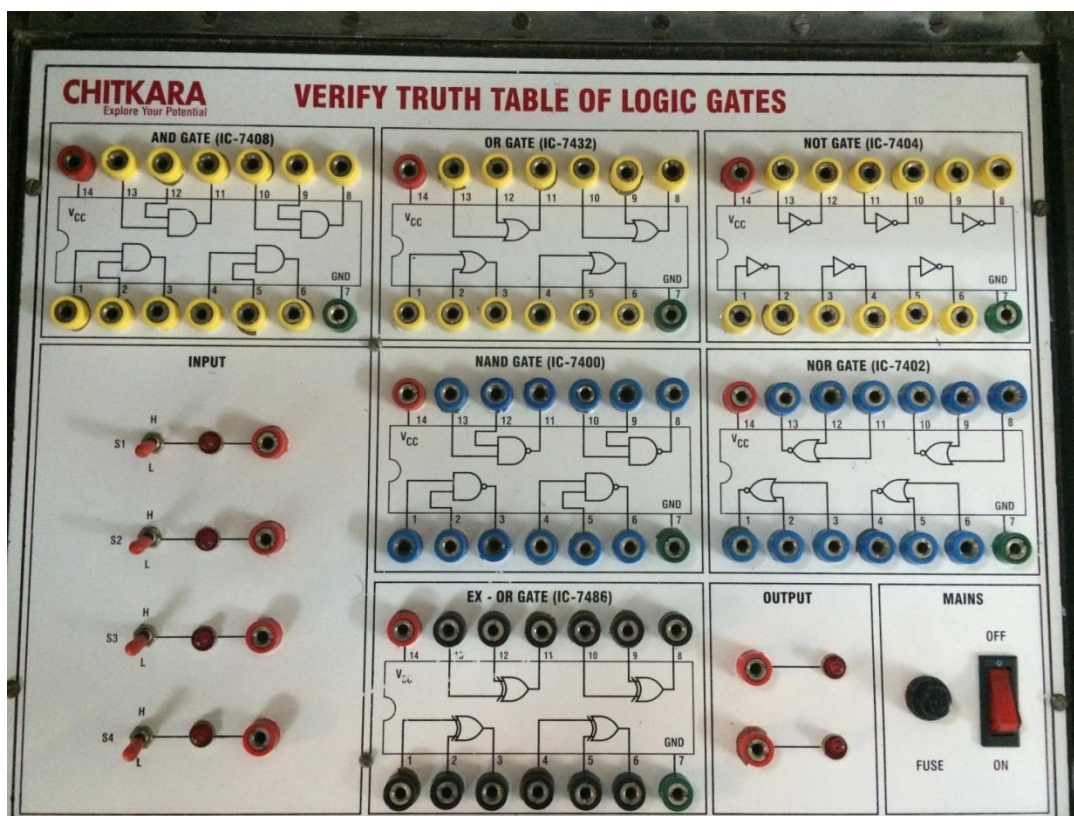

Figure 6.10: Logic Trainer Board
1. Select any gate on the trainer board (as shown in Fig. 6.10) for truth-table analysis.